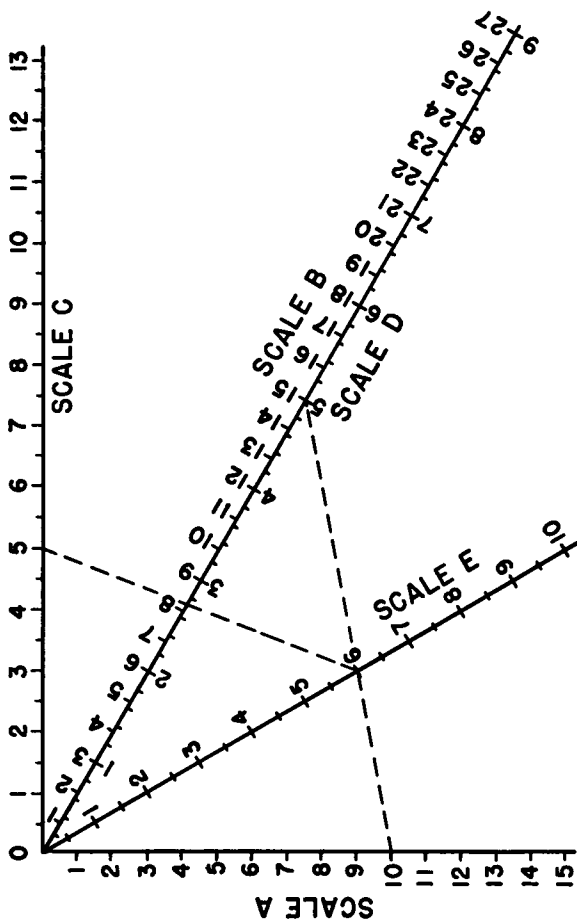

Figure 1-2. Parallel Resistance Nomograph
5. *Parallel Resistance Nomograph*—This graphical device, Figure 1-2, enables the total resistance of two or more resistors in parallel to be determined readily. The dotted lines indicate the solution of an example involving three resistors of 15, 10 and 5 ohms respectively.